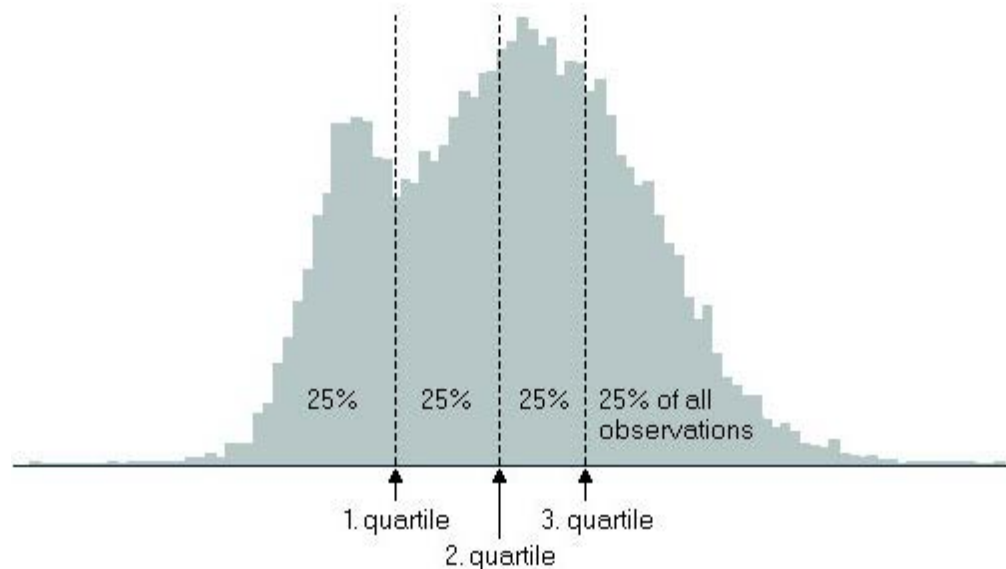

Fig. 27 – DRL is the third quartile of the dose distribution for a radiological examination obtained in a sample of patients.
- The **dose reference level (DRL)** of a radiological examination (e.g., a chest X ray) is the third quartile of the dose distribution reported in a sample of patients (Fig. 27).